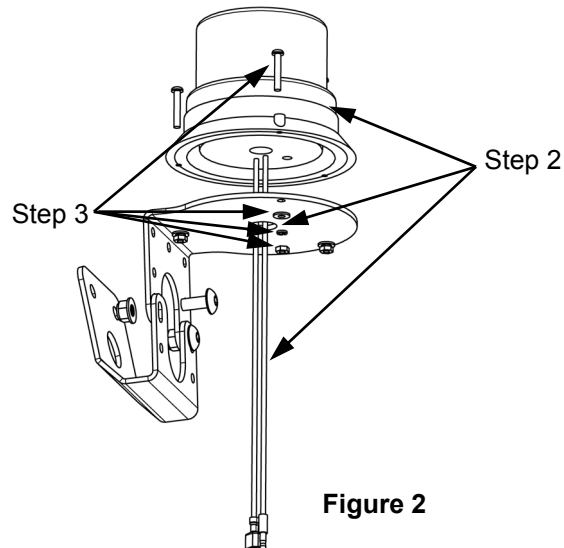

Figure 2
2. Place strobe light (19) onto beacon mount bracket (Item 2) and route wires through center hole in bracket (**Figure 2**).
3. Secure strobe light to bracket using No. 8 x 1.00" long button head screws (11), No. 8 flat washers (15), No. 8 lock washers (3) and No.8 nylock nuts (5) (**Figure 2**).